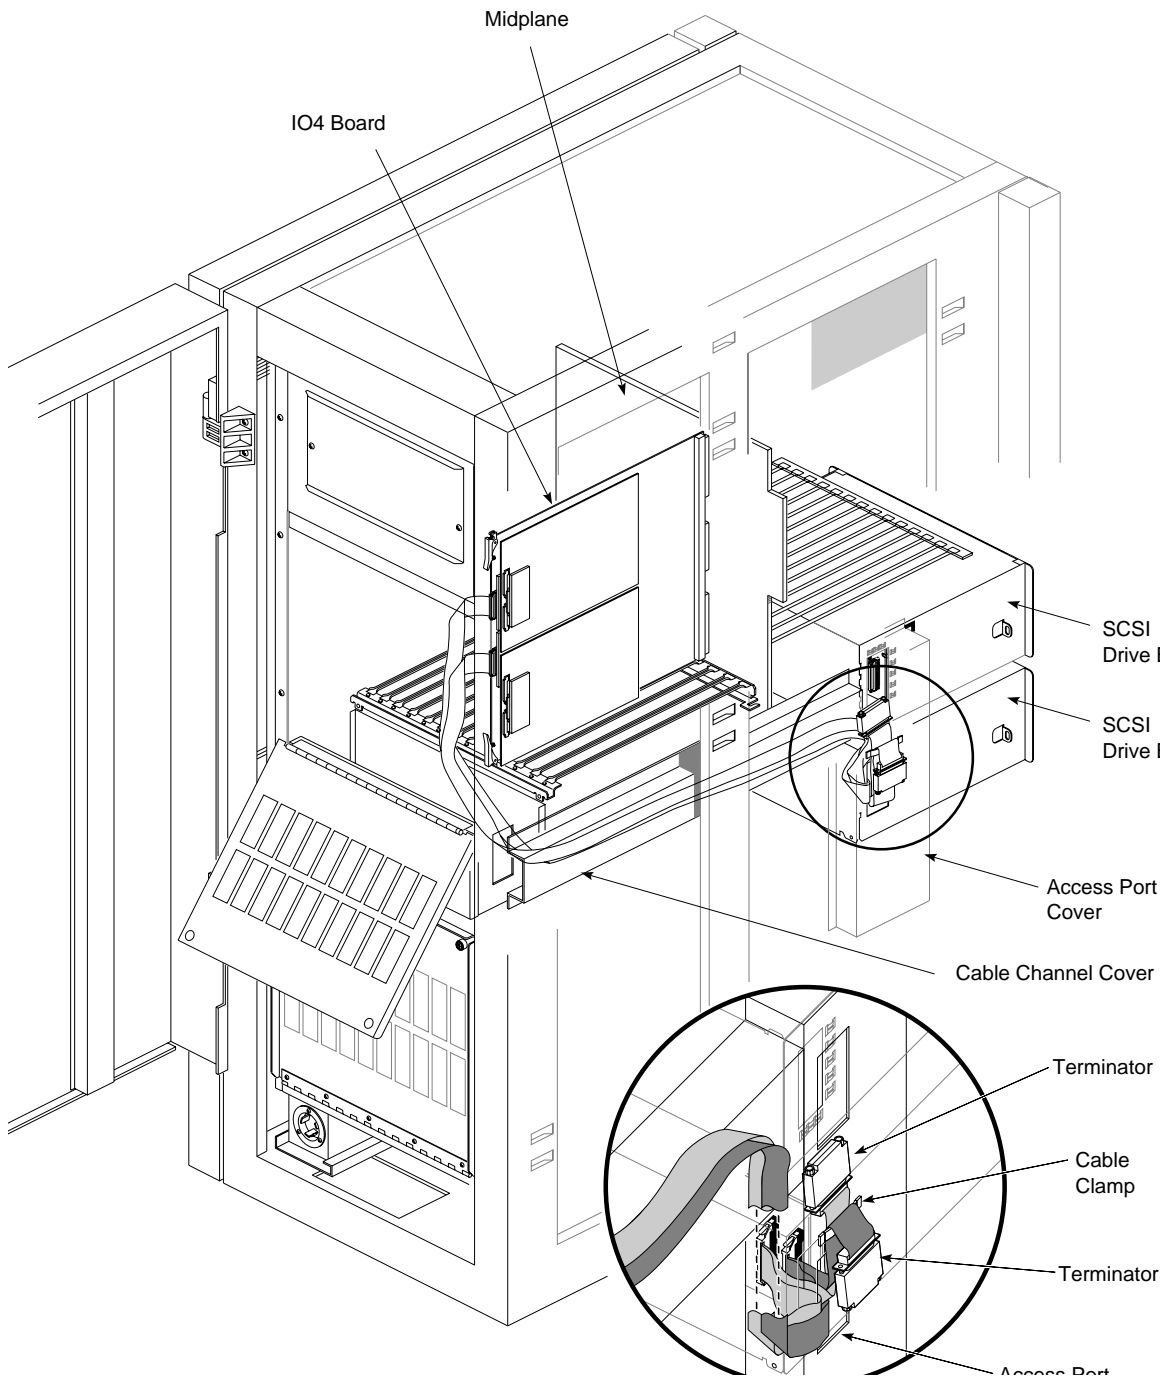

Figure 3-2 RAID SCSI Box Cable Routing in the System Rack
5. Remove the access port cover (12 nuts) and locate the two SCSI cables and the power cable for the optional RAID SCSI box. The SCSI cables run down the left side of the system chassis and exit from the cable routing box immediately to the rear of the RAID SCSI box access ports. The power cables are integral to the access port cover. Reference Figure 3-2.